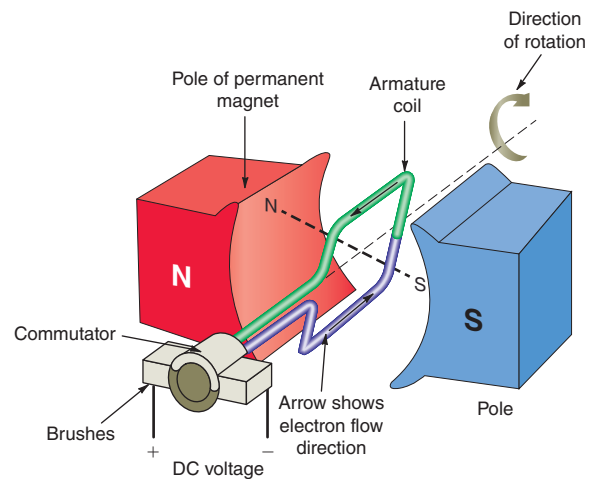

Figure S11-1 Permanent Magnet dc motor.
A common type of dc motor is the permanent magnet (PM) motor. It uses a permanent magnet to produce the field. The rotating element called the *armature* is a coil of many turns of copper wire. When voltage is applied to the armature coil, a magnetic field is produced. That field interacts with the PM field as shown in Fig. S11-1. Only one turn of wire is shown to simplify the illustration and explanation. The armature coil rotates inside the magnetic field between the PM poles. The attraction and repulsion of the magnetic poles produce rotation.